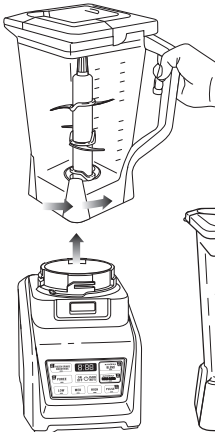

Fig. 9
- 12 Turn the pitcher counter clockwise to remove and then lift off the base. (Fig. 9)